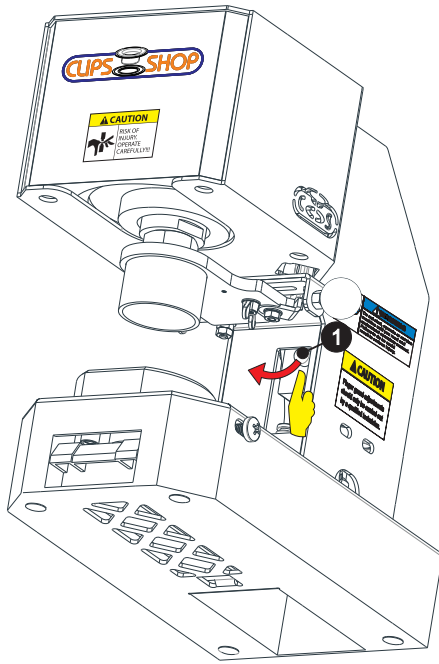

fig. 91
Pull the valve out of the machine body in the arrow direction by pressing the pin ❶ on it as shown in the (fig. 91).
**Note:** This pin ❶ has a built-in spring. While you are pulling it out of the machine, you need to press this pin ❶.